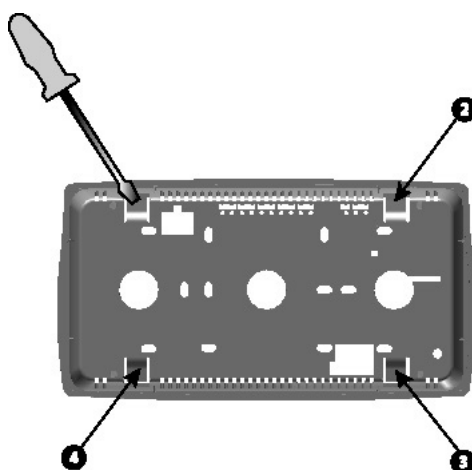

Fig. 11 *Separating the Front Keypad-Base of Keyboard*
- (1) Separate the "FRONT KEYPAD" from the "**BASE**" (by pressing down with a screwdriver on the four snap-on joints around the edge (Figure 11).
- (2) Thread the electrical cables through the *panel cut-out* and then through one of the three large circular holes on the "**BASE**" (Figure 11).